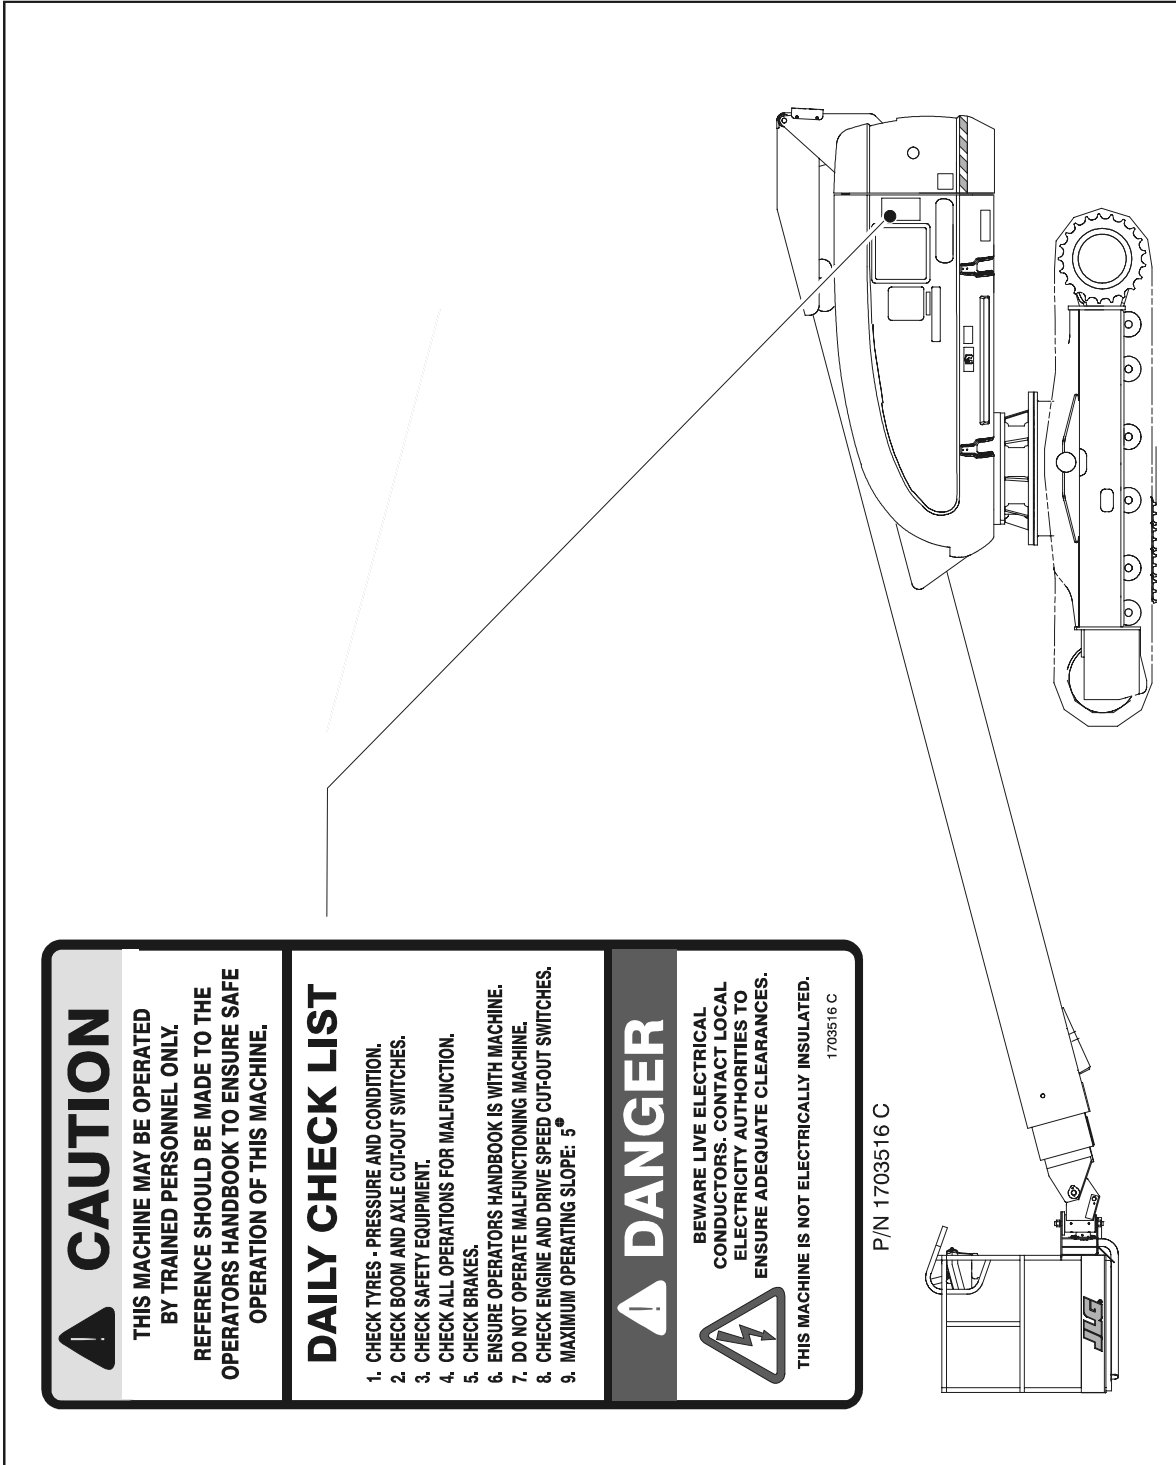

Figure 3-8. Decal Location - Sheet 1
**NOTE:** Placards and Decals can be ordered by using part numbers located by each placard or decal. (Figure 3-8.)